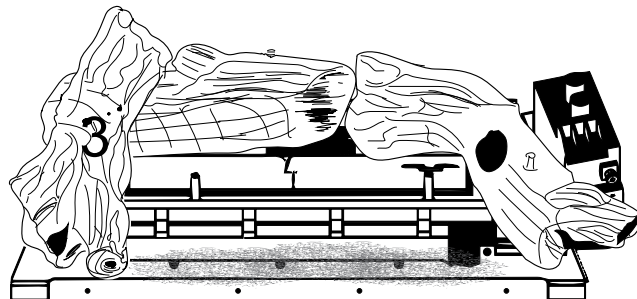

Figure 5.4 - Log #3 Placement
4. Hold log #3 with your left hand with the fat end away from you. Place log #3 by positioning the notch on the bottom of the log over the left side of the grate and rest the fat end onto log #2. See Figure 5.4.